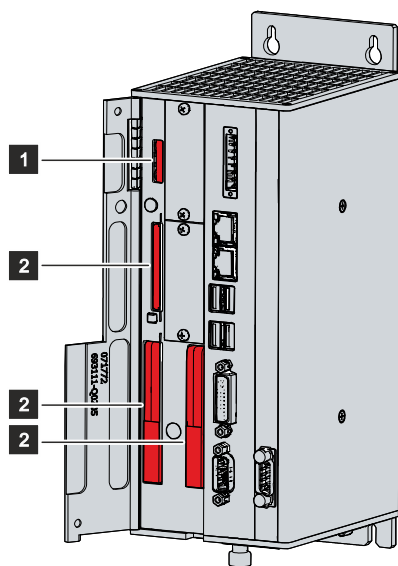

Fig. 24: C6930_Battery and storage media
You now have access to the battery (1) and storage media (2) (see Fig. 24).